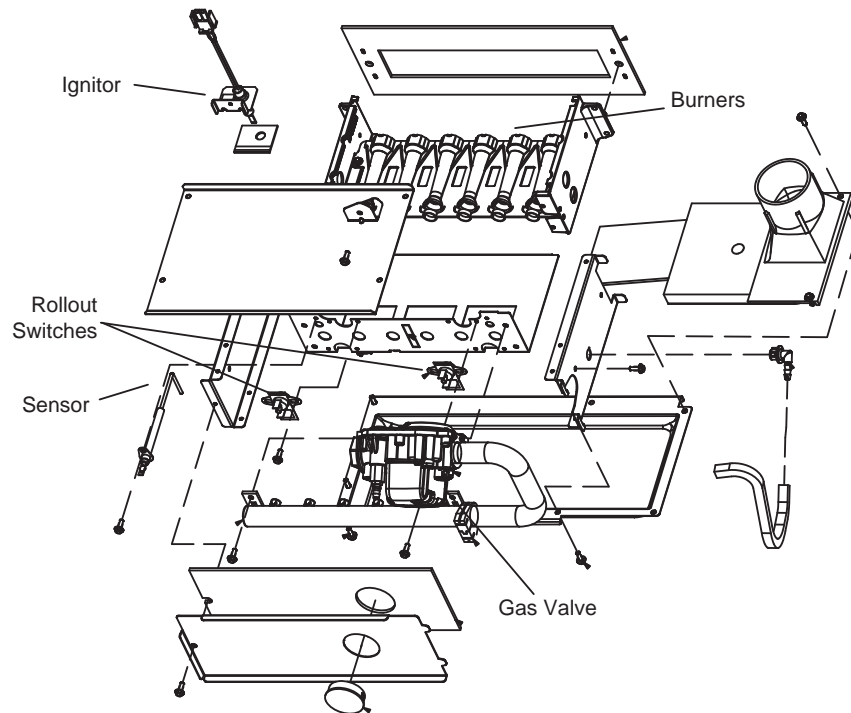

Figure 7. Heating Components
1. Flame Rollout Switches (Figure 7)